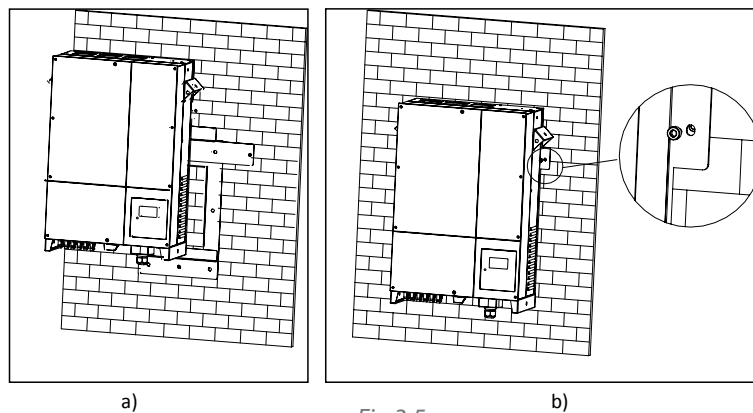

Fig 3.5
- Installed one M6*10 screw at each side of inverter to reliable fixed it on the wall. Please reference in Fig3.5(b).